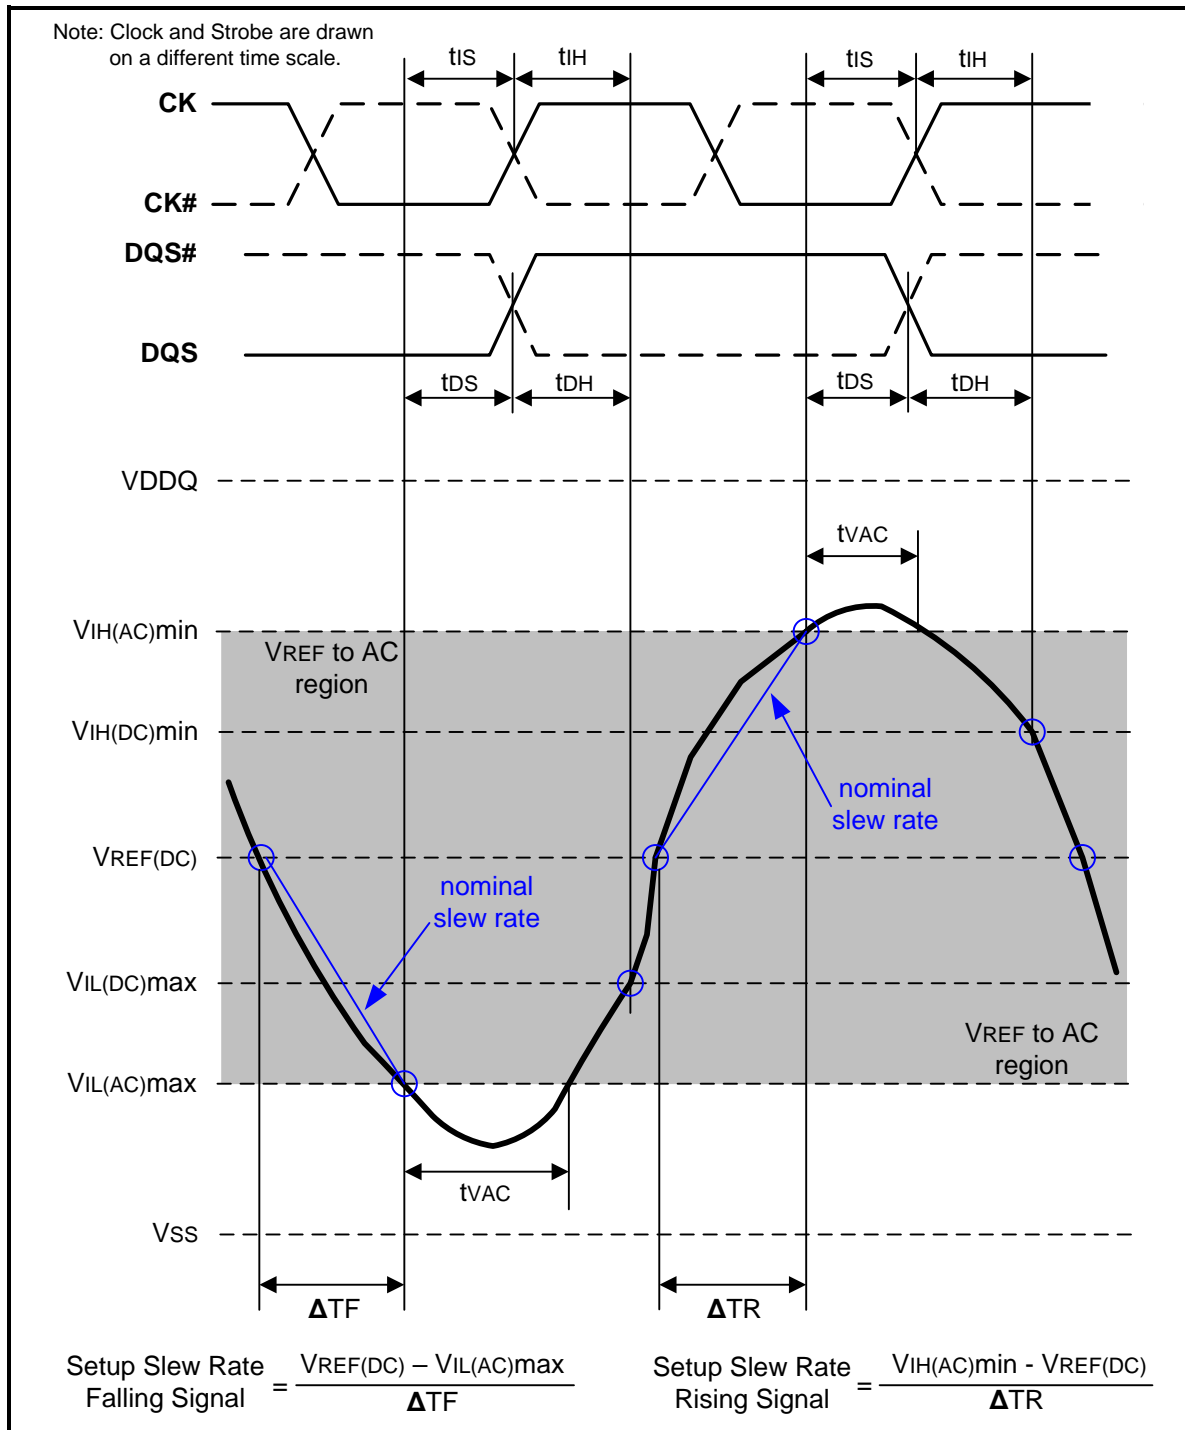
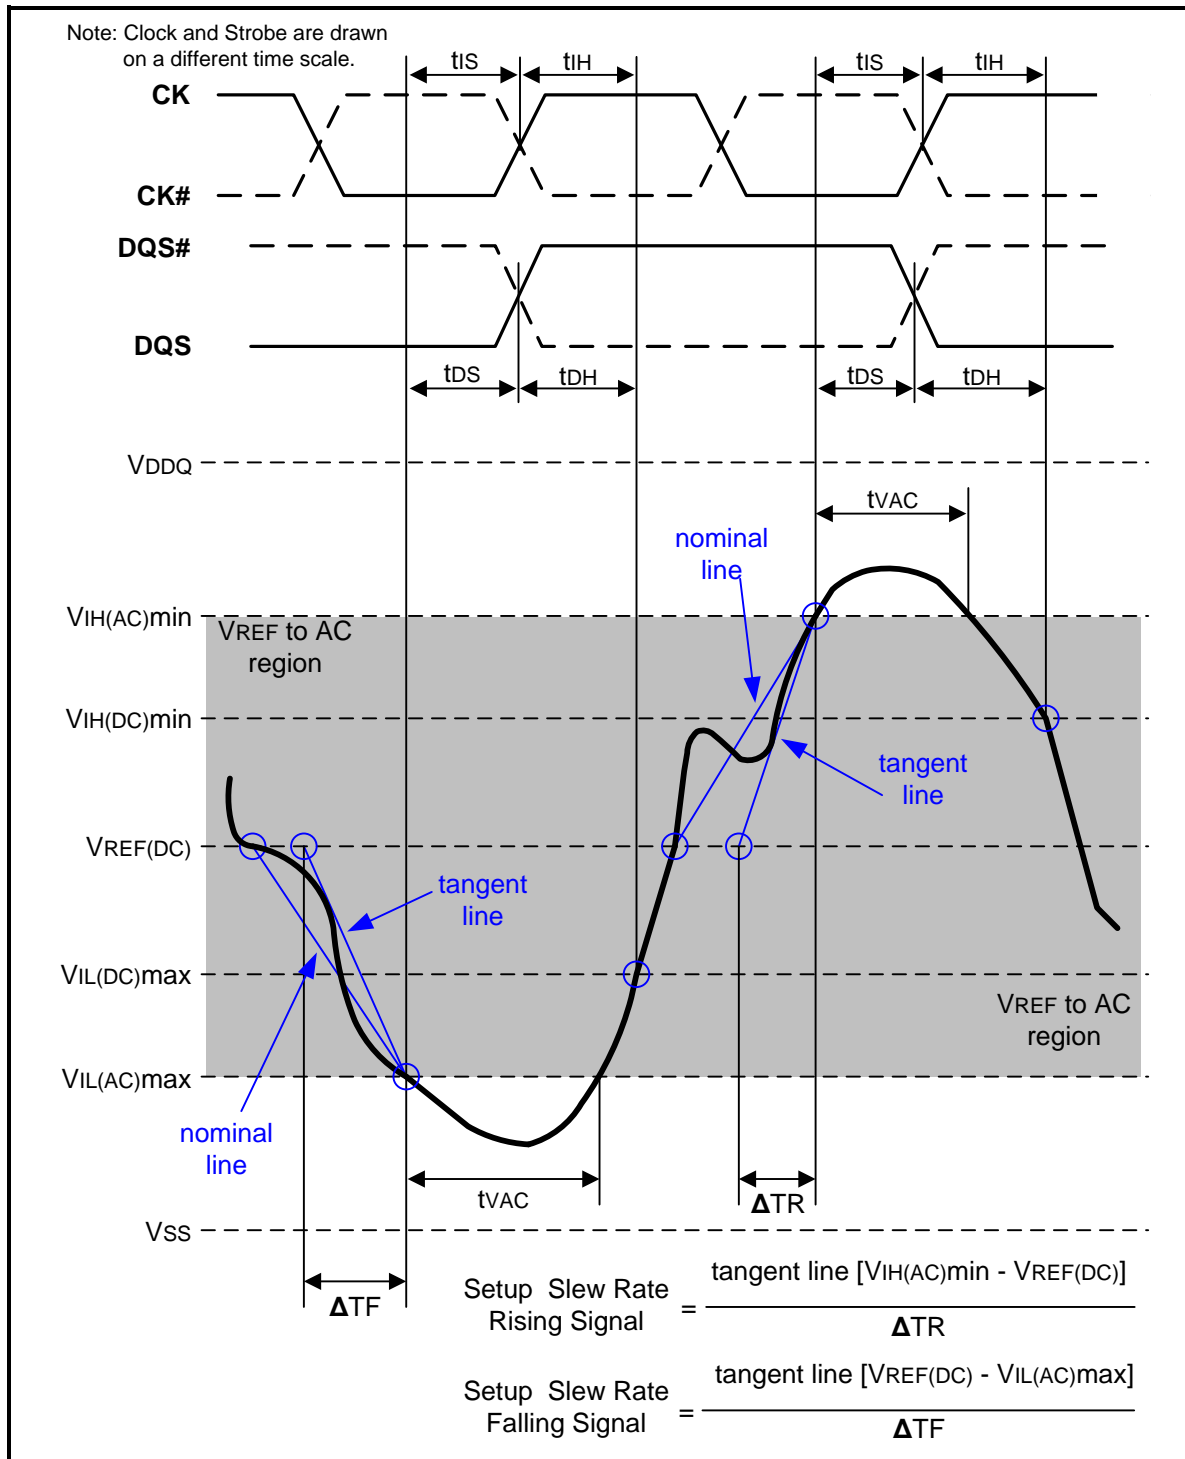

Figure 107 – Illustration of nominal slew rate and tvac for setup time tDS (for DQ with respect to strobe) and tIS (for ADD/CMD with respect to clock)
Figure 109 – Illustration of tangent line for setup time tDS (for DQ with respect to strobe) and tIS (for ADD/CMD with respect to clock)
Setup (t_{IS}) nominal slew rate for a rising signal is defined as the slew rate between the last crossing of $V_{REF(DC)}$ and the first crossing of $V_{IH(AC)min}$. Setup (t_{IS}) nominal slew rate for a falling signal is defined as the slew rate between the last crossing of $V_{REF(DC)}$ and the first crossing of $V_{IL(AC)max}$. If the actual signal is always earlier than the nominal slew rate line between shaded ' $V_{REF(DC)}$ to AC region', use nominal slew rate for derating value (see Figure 107). If the actual signal is later than the nominal slew rate line anywhere between shaded ' $V_{REF(DC)}$ to AC region', the slew rate of a tangent line to the actual signal from the AC level to $V_{REF(DC)}$ level is used for derating value (see Figure 109).
Setup (tDS) nominal slew rate for a rising signal is defined as the slew rate between the last crossing of VREF(DC) and the first crossing of VIH(AC)min. Setup (tDS) nominal slew rate for a falling signal is defined as the slew rate between the last crossing of VREF(DC) and the first crossing of VIL(AC)max (see Figure 107). If the actual signal is always earlier than the nominal slew rate line between shaded 'VREF(DC) to AC region', use nominal slew rate for derating value. If the actual signal is later than the nominal slew rate line anywhere between shaded 'VREF(DC) to AC region', the slew rate of a tangent line to the actual signal from the AC level to VREF(DC) level is used for derating value (see Figure 109).